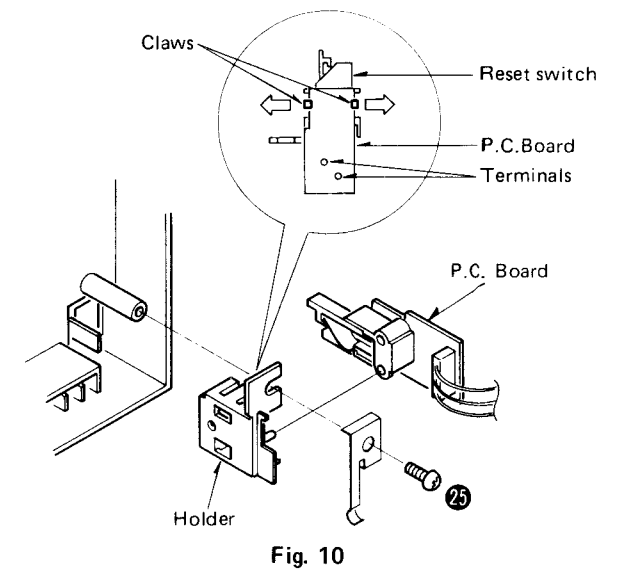

Fig. 10
2. Remove the switch holder setscrew (Fig. 10: ㉕).